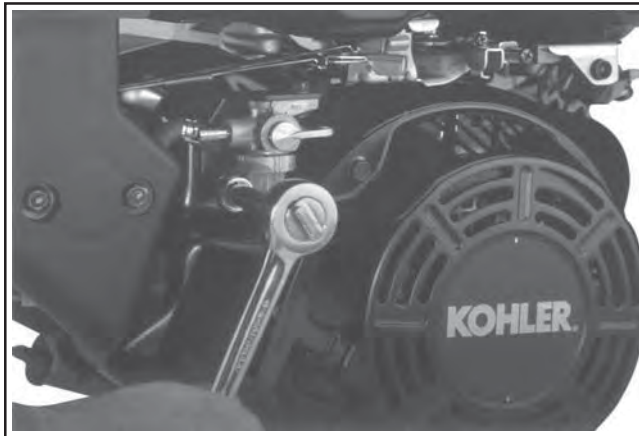

Figure 11-114. CS8.5 (spec. 95xxxx). Mounting Shut-Off Valve.
4. Connect the fuel line from the fuel tank to the inlet fitting of the shut-off valve and secure with the clamp. Mount the bracket/shut-off valve assembly to the blower housing aligning the indexing mark and screw hole. Install the hex flange head screw and torque to **8-12 N·m (71-106 in. lb.)**. See Figure 11-114.